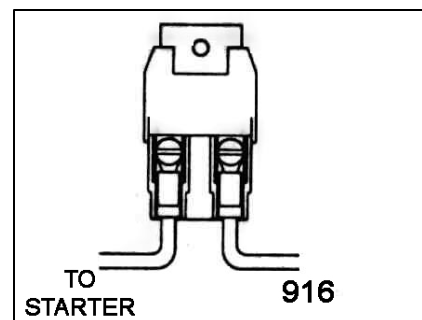

Figure 7-6 Maxi Fuse
7.6.1 With crimping tool, attach Maxi Fuse (**Figure 7-6**) onto end of ENGINE SECTION (single) 10 ga. wire #916 (red) AFTER having routed wire from the Fuse Panel to the Starter Solenoid. This serves as a fuse to protect the entire harness. DO NOT OMIT IT!
- 10.1.4** With a stock GM starter, route the remainder of wire #916 from the Ammeter POSITIVE terminal to the Maxi Fuse terminal. Connect the other side of the Maxi Fuse (**Figure 7-6**) to the Starter Solenoid Battery (B+) terminal.